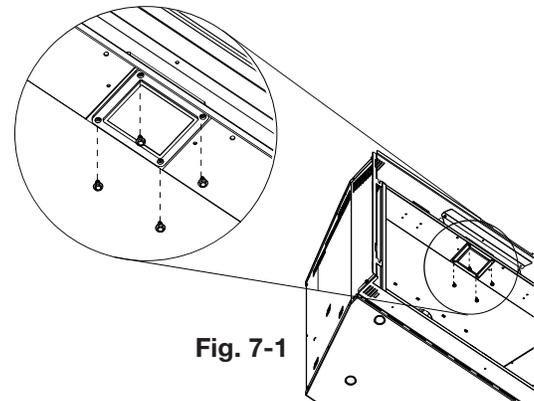

Fig. 7-1
- C. Remove the 4 screws securing the lens frame (Fig. 7-1). This frame retains the glass lens. The lamp can now be accessed.